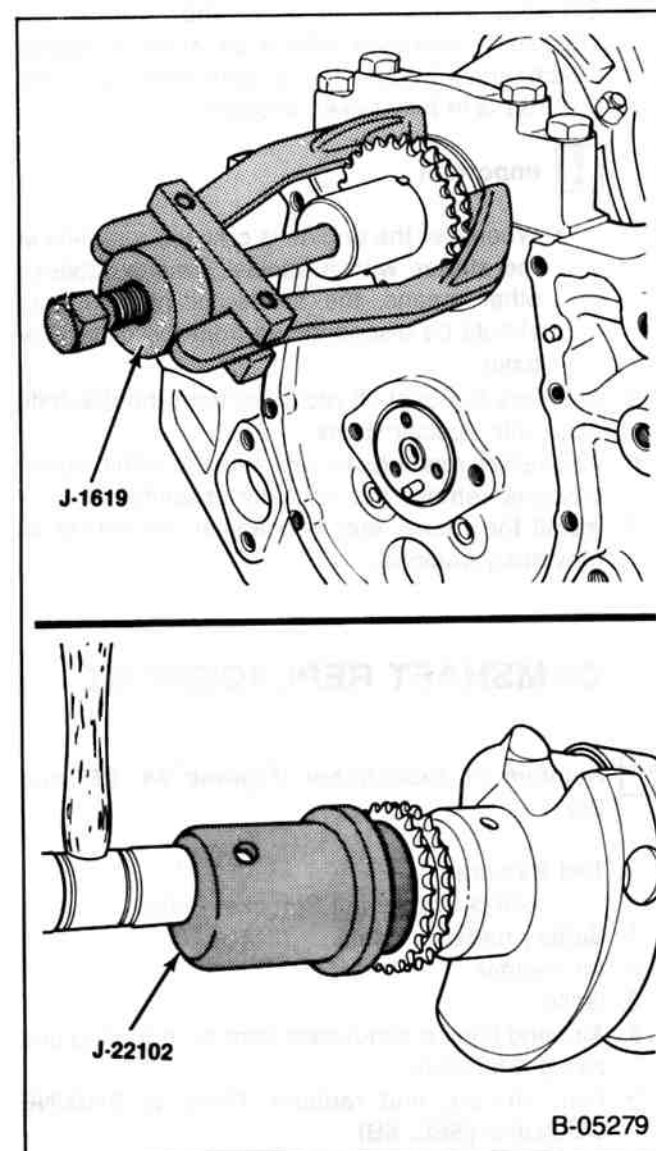

Figure 25—Replacing The Crankshaft Sprocket
18. Crankshaft sprocket (if required). Use J-1619 (figure 25).
- 3. Crankshaft sprocket (if removed). Use J-22102 (figure 25). Make sure the timing mark faces outside.